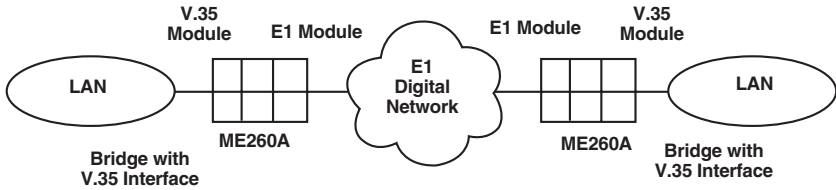

Figure 2-7. Two DTEs connection via E1 network.
- Connection of a DTE to a 64 kbps co-directional G.703 1.544 Mbps or G.703 1.048 Mbps network or DTE. In a typical application, a Modular Modem Eliminator could be used to allow LAN interconnection via bridges using an E1 digital network, for example, even when the bridges do not have E1 interfaces. **Figure 2-7** shows an application where bridges with a V.35 interface communicate over the E1 digital network (transparent to 2.048 Mbps network with no need for framing).